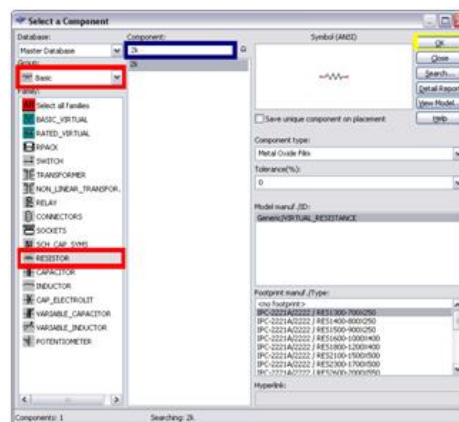

Figure 3. Placing a resistor
2. In the "Select a Component" dialog box, set the dialog to the following settings circled in red. You have now selected the **Basic** group and the **Resistor** family (as in Figure 3)